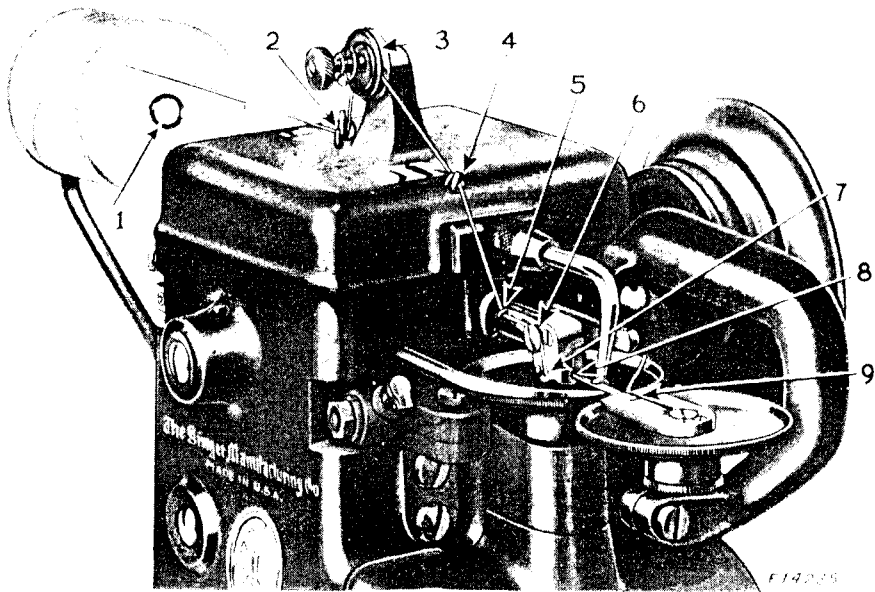

Fig. 8. Threading the Machine
Pass the thread from the spool on the spool holder (1, Fig. 8) at the rear of the machine, then through the thread guide (2),